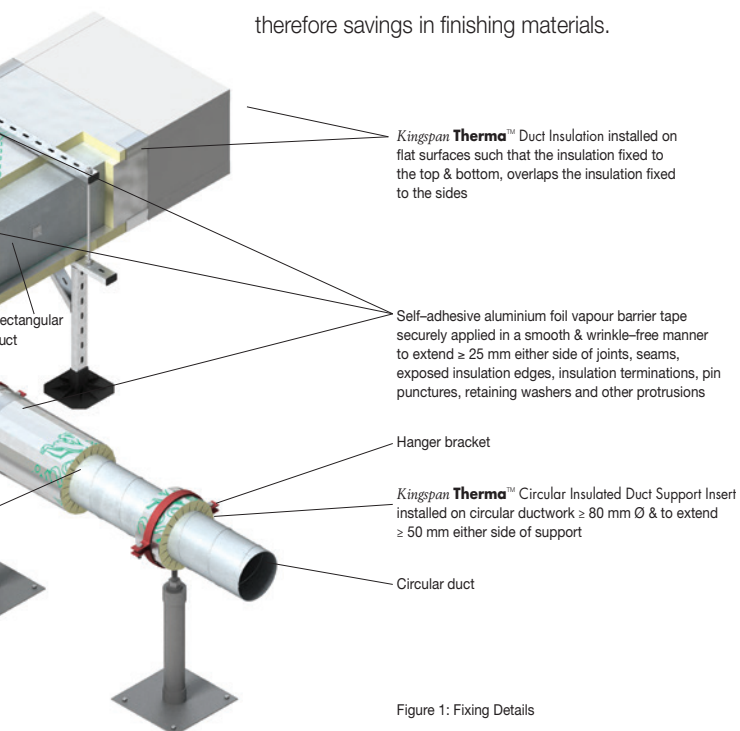

Figure 1: Fixing Details
- On horizontally orientated ducts, the insulation fixed to the top and bottom should overlap the insulation that is fixed to the sides (see Figure 1 on pages 2–3 of this document).